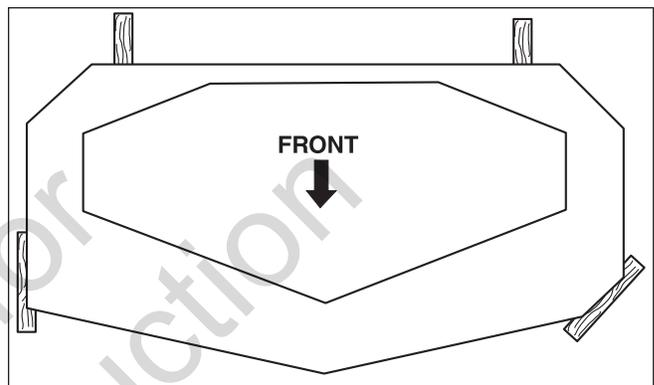

Figure 38. Block Positions
5. Block up the mower deck until all of the hanger chains are slack. See Figure 38.